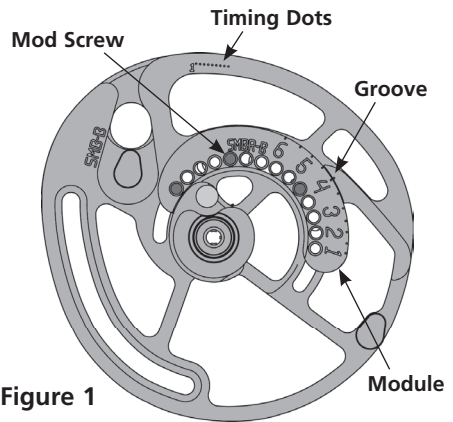

Figure 1
1. Using an Allen wrench, remove the three "Module screws" that attach the module to the cam (**See Figure 1**).